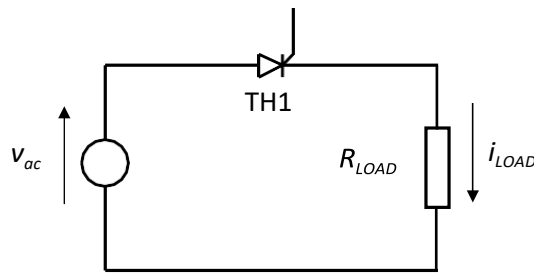

Figure Q2b. Rectifier circuit.
- Q2b** Figure Q2b shows a rectifier circuit using a thyristor. The AC supply voltage V_{ac} is 230 V, and R_{LOAD} has a resistance of 500 Ω . Calculate the average value of i_{LOAD} if the thyristor is triggered at an angle α of 65°.